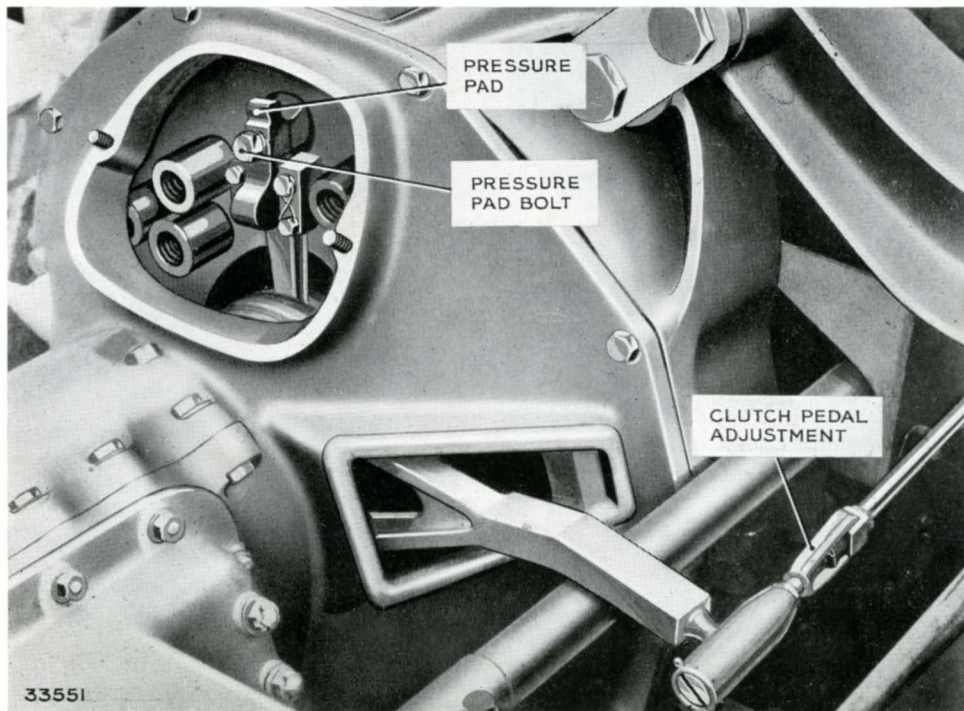

FIG. 8. ACCESS TO THE PRESSURE PADS
1. Remove the ventilation cover from the clutch housing, Fig. 8.
The effective travel of the clutch pedal is not sufficient to allow the full free travel available on the withdrawal sleeve to be utilised. Therefore when setting the withdrawal levers with the pressure pads, adjust the turnbuckle shown in Fig. 8 until the free-travel is reduced sufficiently to allow the clutch to disengage fully when the pedal is nearly fully depressed. As the clutch wears and the free travel at the pedal is reduced to about  $\frac{1}{2}$  in., adjust the clutch operating rod by the turnbuckle until the free travel is regained. When the free travel is reduced again, reset the pressure pads.
A plain locknut was originally fitted at the rear end of the clutch control-rod, between the turnbuckle and the ball-end socket; see **Clutch Pedal Adjustment**, as Fig. 8.